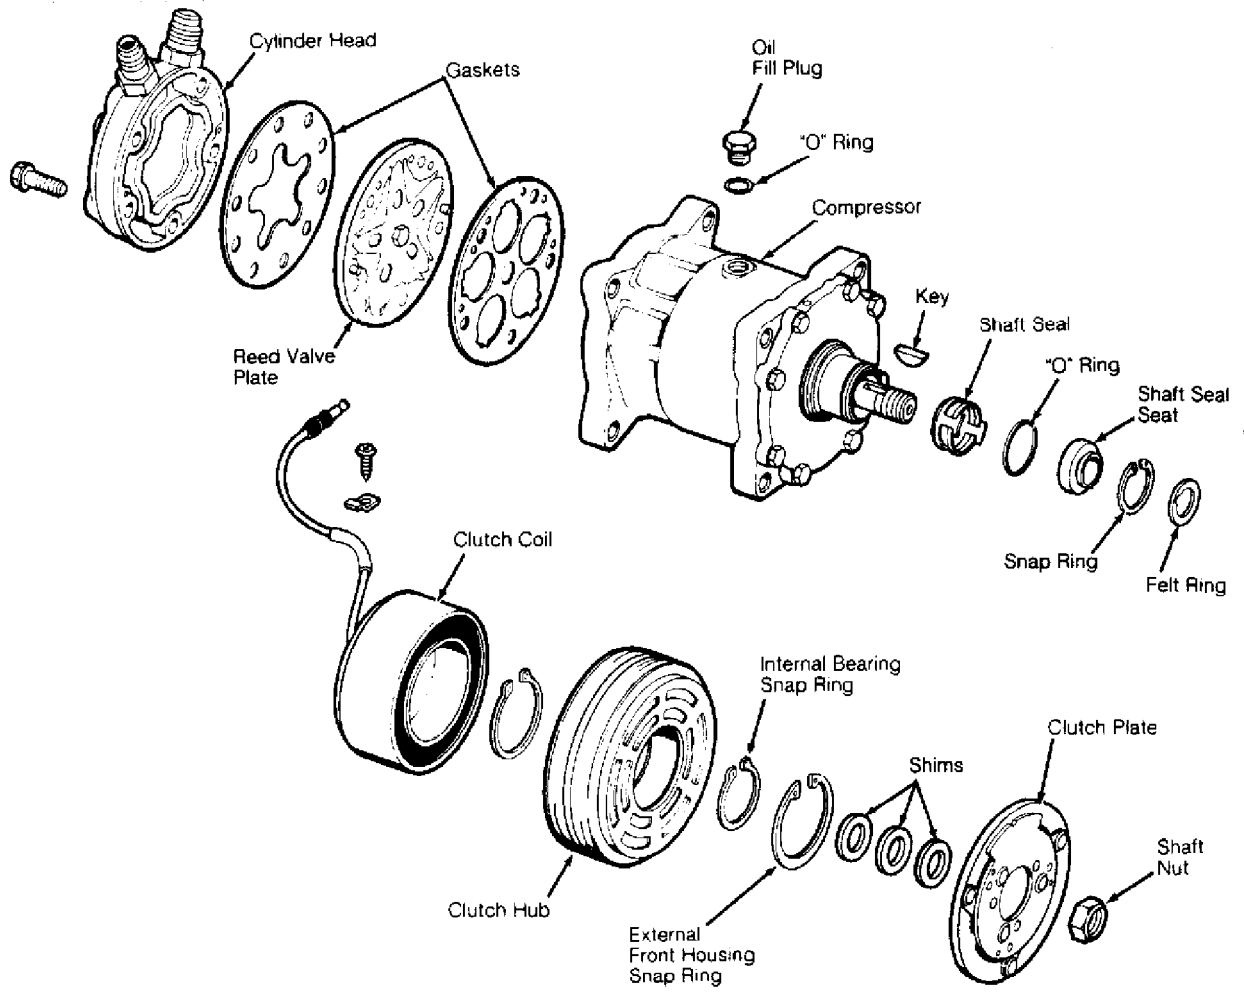

Fig. 16: Sanden 5-Cylinder Compressor
1) Hold clutch hub stationary and remove shaft nut. Remove clutch plate using puller. Remove external front housing snap ring and internal bearing snap ring. See Fig. 16.